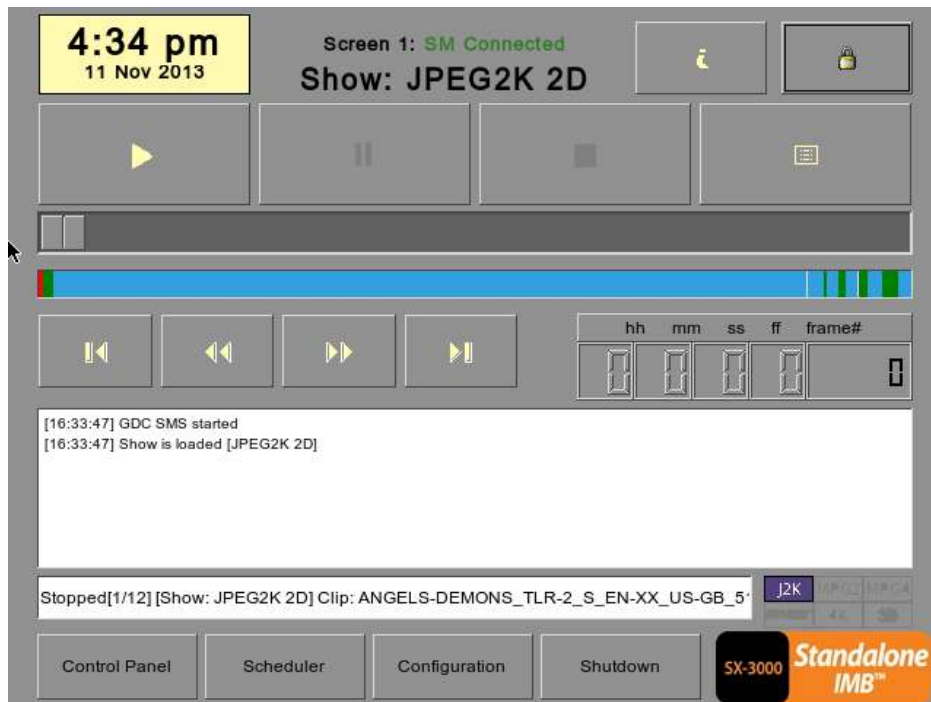

Figure 2 SMS interface.
- 1 Enter the user password to access the **SMS** interface as seen in **Figure 2**.